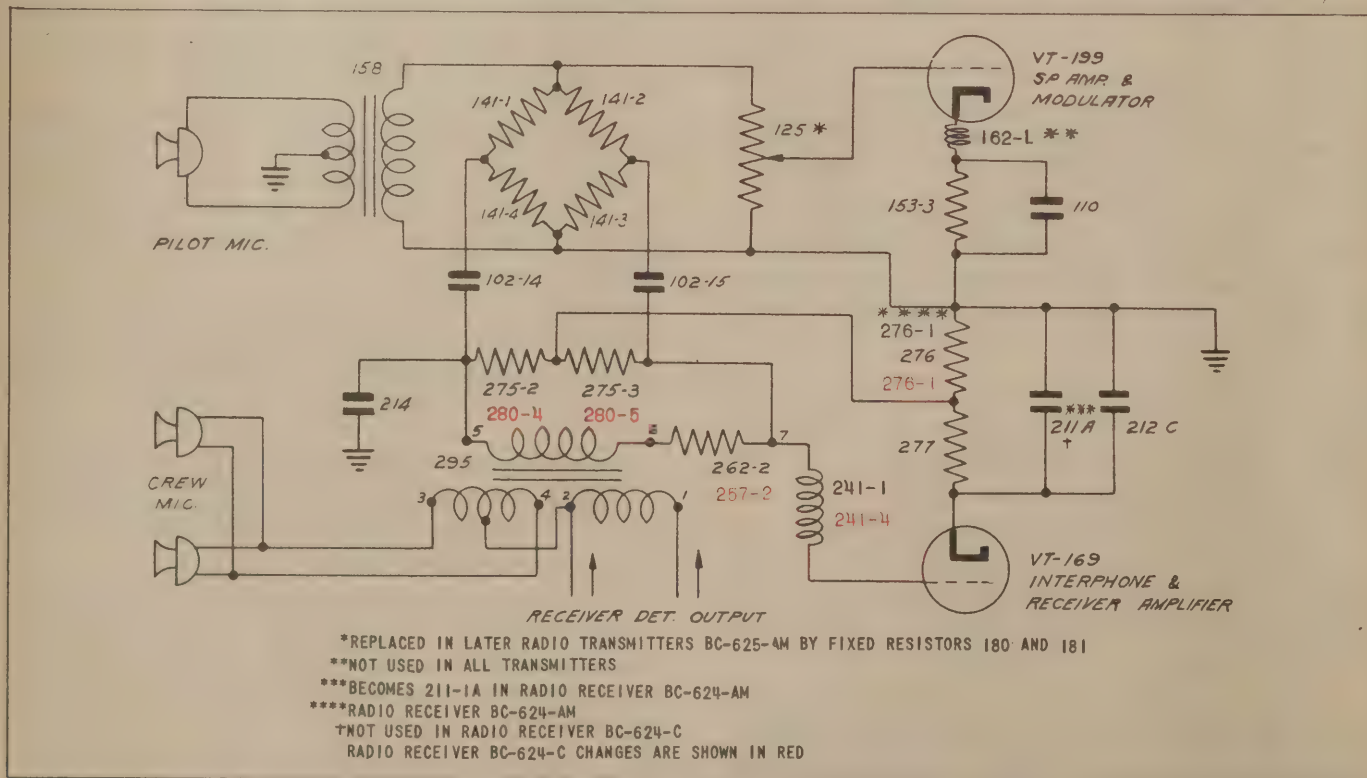

Figure 4-2. Microphone Mixing Circuit, Transmitter-Receiver—Simplified Diagram
(2) The a-f input is then fed to terminals 1 and 3 of transformer 158. The secondary of this transformer furnishes the a-f energy to the grid of the speech amplifier, tube JAN-6SS7 (VT-199), through bridge circuit and gain control.
(3) The bridge circuit is designed to allow inter-phone communication between pilot and crew without modulating the transmitter. Refer to paragraph 2i this section, for a complete discussion of the bridge circuit. (See fig. 4-2.)
(1) Interphone communication is provided between the pilot and crew stations. However only the pilot station can modulate the transmitter due to the special input circuit to the audio sections of the transmitter and receiver. The headsets of the pilot and crew receive audible sidetone of the modulation of the transmitter. (See fig. 4-2.) An electromagnetic (pilot) microphone (not supplied with the equipment) is connected to the primary winding of transformer 158, the secondary of which is connected across potentiometer 125. Audio voltage developed across the secondary of transformer 158 appears across the "GAIN" control potentiometer 125. Using potentiometer 125 it is possible to regulate the amplitude of the audio voltage impressed on the grid of the transmitter speech-amplifier, tube JAN-6SS7 (VT-199). The speech-amplifier output is coupled to the modulator tubes of the transmitter.
(2) Since the bridge resistors 141-1, 141-2, 141-3, and 141-4 are equal, half of the audio voltage developed across the secondary winding of transformer 158 appears at the junction points of 141-1 and 141-4, and 141-2, and 141-3 with respect to the grounded end of the secondary winding. (See fig. 4-2.) The voltages at these two junction points are equal and in phase. Resistor 262-2 is connected between terminals 6 and 7 of transformer 295, and the voltages at terminals 5 and 7 are also equal and in phase. Therefore, half the audio voltage developed across the secondary winding of transformer 158 is impressed on the grid of the audio amplifier, tube JAN-
(3) One or more electromagnetic (crew) microphones (not supplied with the equipment) are connected to primary terminals 3 and 4 of transformer 295. (See fig. 4-2.) Approximately half of the a-f voltage induced in the secondary (terminals 5 and 6) by either of the two primaries appears at the grid of the first audio amplifier, tube JAN-12C8 (VT-169), and the result is an audible signal in the headphones. However, the voltage appearing at the junction point of resistors 141-1 and 141-4 is equal in amplitude but opposite in phase to the voltage appearing at the junction point of resistors 141-2 and 141-3. Since these four resistors are all equal, the two out-of-phase voltages cancel each other and there is no resultant voltage across potentiometer 125.
(6) The cathode of tube JAN-12C8 (VT-169) is bypassed by capacitors 211A and 212C. Blocking capacitors 102-14 and 102-15 protect the AVC delay circuit by preventing d-c grid voltages from returning to ground through the bridge circuit. Capacitor 214 prevents the grid input capacitance of tube JAN-12C8 (VT-169) and wiring capacitances from unbalancing the bridge circuit.
(7) The audio-level compensating resistor 262-2 reduces the audio output from the crew microphones (see fig. 4-2) so that approximately equal voltages are impressed on the inter-phone-amplifier grid by the crew or pilot microphones.